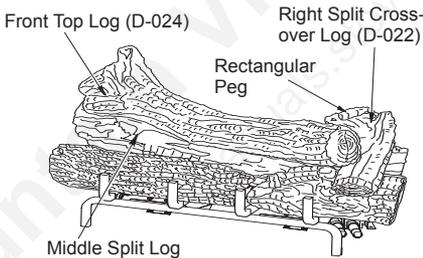

Figure 29 - Installing Front Top Log
- Find the front top log (D-024). See Figure 29. The left end of this log has a square hole that fits over a square peg that is on the top of the middle split log. The right end of this log rests behind the knot on the top of the front right log.